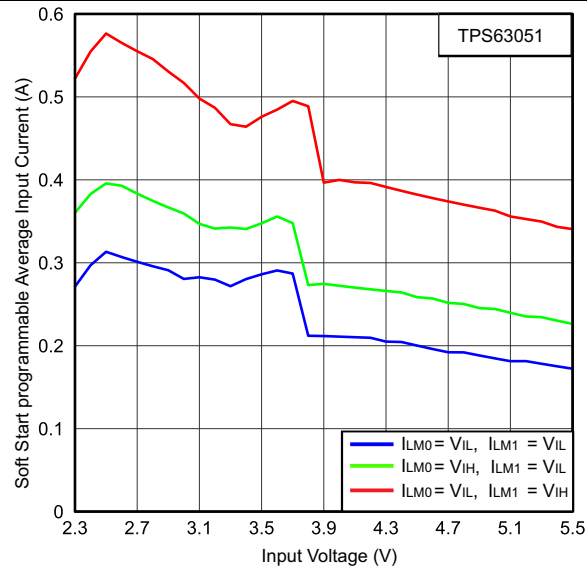

Figure 3. Programmable Average Input Current vs Input Voltage⁽¹⁾
(3) For variation of this parameter with Input voltage see Figure 3.
(1) For variation of this parameter with Input voltage see Figure 3.
To minimize inrush current and output voltage overshoot during start up, the device has a soft start. At turn on, the input current raises monotonically until the output voltage reaches regulation. The TPS6305x devices charge the soft start capacitor, at the SS pin, with a constant current of typically 1 μ A. The input current follows the current used to charge the capacitor at the SS pin. The soft start operation is completed once the voltage at the SS pin has reached typically 1.3 V. Figure 3 shows the value of the soft start capacitor in respect to the soft-start time.
The soft-start time in Figure 3 is referred to typical application with 10- μ F effective output capacitance.